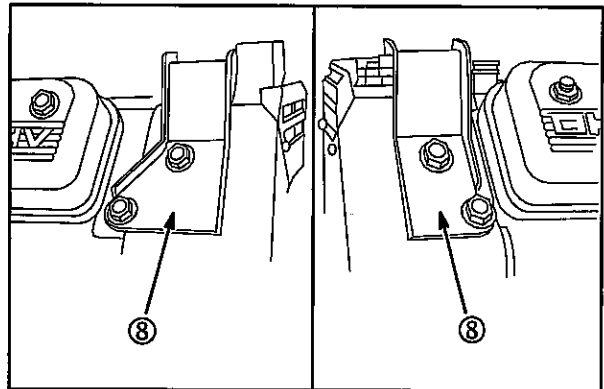

Fig. 4
9. If necessary remove 4 screws and 2 flywheel side fuel tank base supports (8), Fig. 4.
1. Install 2 flywheel side fuel tank base supports (8), Fig. 4. Torque screws to 140 in. lbs. (16 Nm).